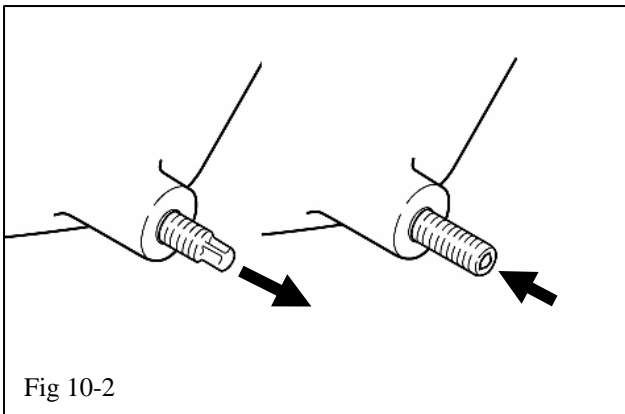

Fig 10-2
- (b) Unclip the wire harness from the stud on the front of the timing cover on the driver side of the engine (Fig 10-2). Using an E-6 “Torx” socket, remove this stud and discard it.
- (c) Using a 3 mm allen socket, install the M6 X 30 mm allen stud (C4) (Fig 10-2).